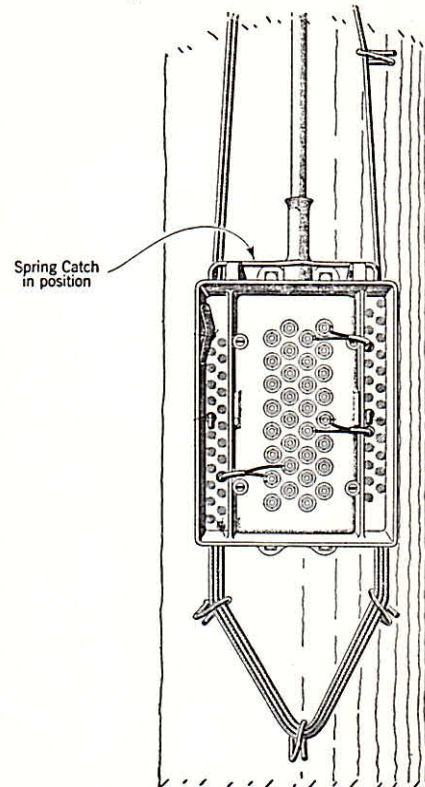

Fig. 5
- (2) Carry the right end of spring catch over top of terminal and in front of cable stub. Grasp catch near the right end with Long Nose Pliers and insert this end into the wire entrance hole opposite the hole containing the left end of catch. See Fig. 5.